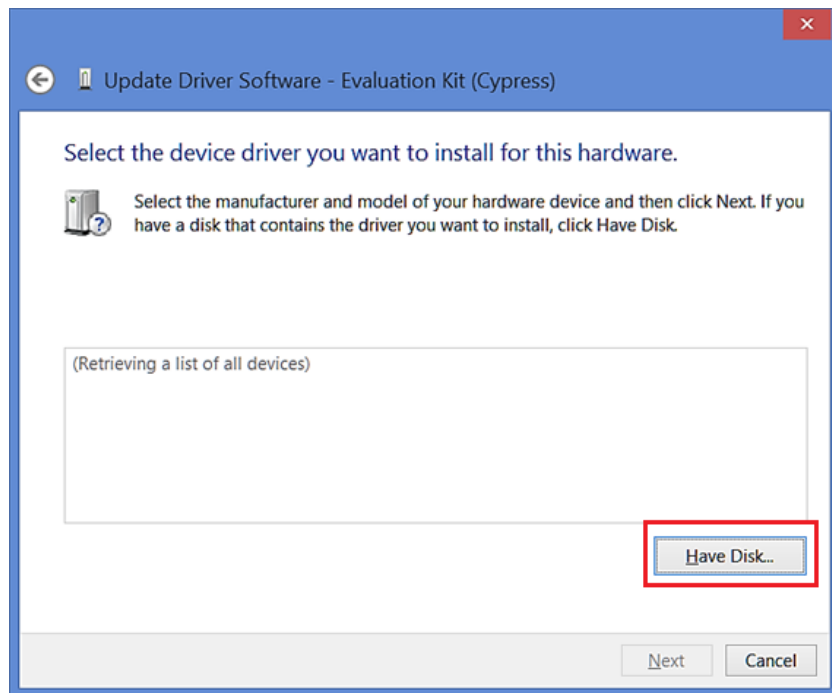

Figure 92. Update Driver Software - 4
7. Choose "Have Disk" (Figure 92).